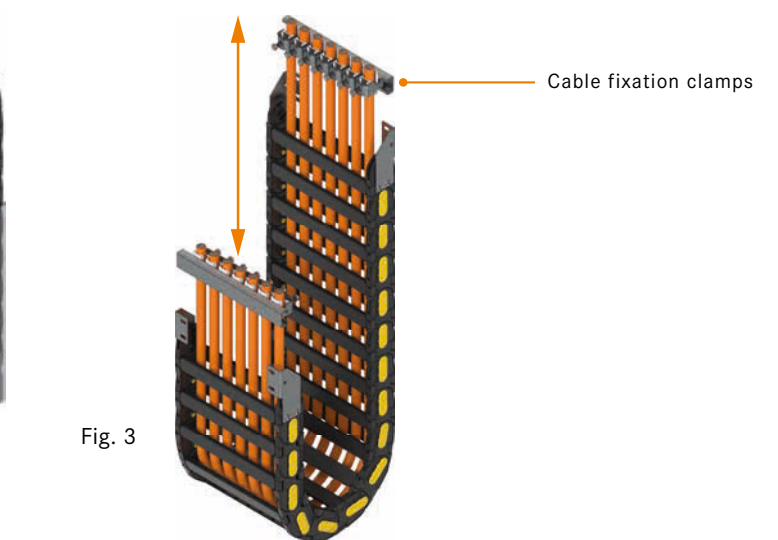

Fig. 3
- Cables/hoses have to be fixed on both ends using the appropriate accessories (strain relief) and should not touch the cable chain (**Fig. 3**)